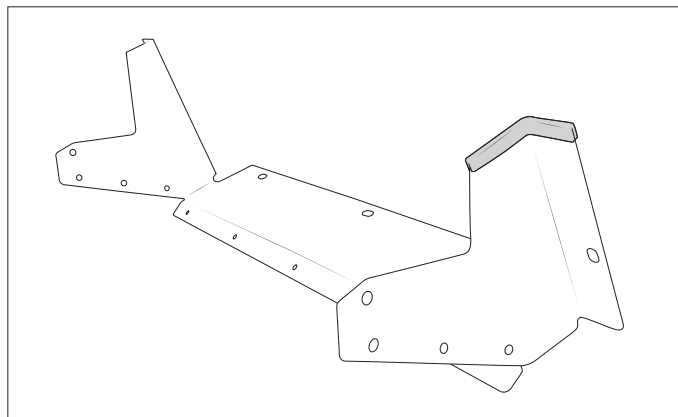

Figure 36
- Install the edge guard found in the intercooler shroud kit onto the left side of the shroud to protect winch wiring (fig. 36).